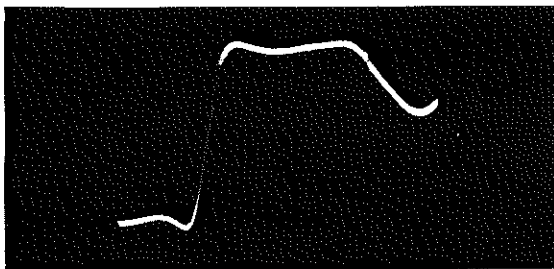

Fig. 46 Visual Amplifier: Sweep Detector No. 2, Correct Bandpass After VSB Filter, Lower Marker 0.75 MC Below Carrier
e. Place the sweep generator 'scope input selector switch in the second DETECTOR position. The response should be like that shown in Fig. 46 or 47. The adjustment of the Vestigial-Sideband Filter is carefully set and locked at the factory before shipment so that no further adjustment should be required. See EBI-3326 for complete information about this unit.